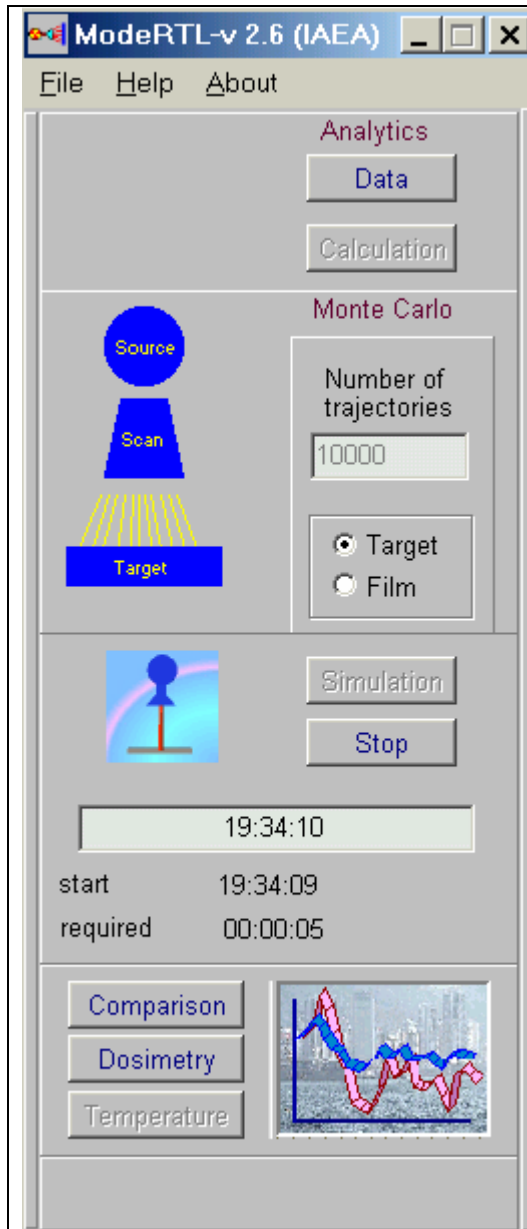

Fig.1. Main form of the Software ModeRTL
Software ModeRTL consists of five thematic modules and service blocks. (See Fig.1).
- **Click** the button **"DATA"** in **Analytic module**. See Fig.1.